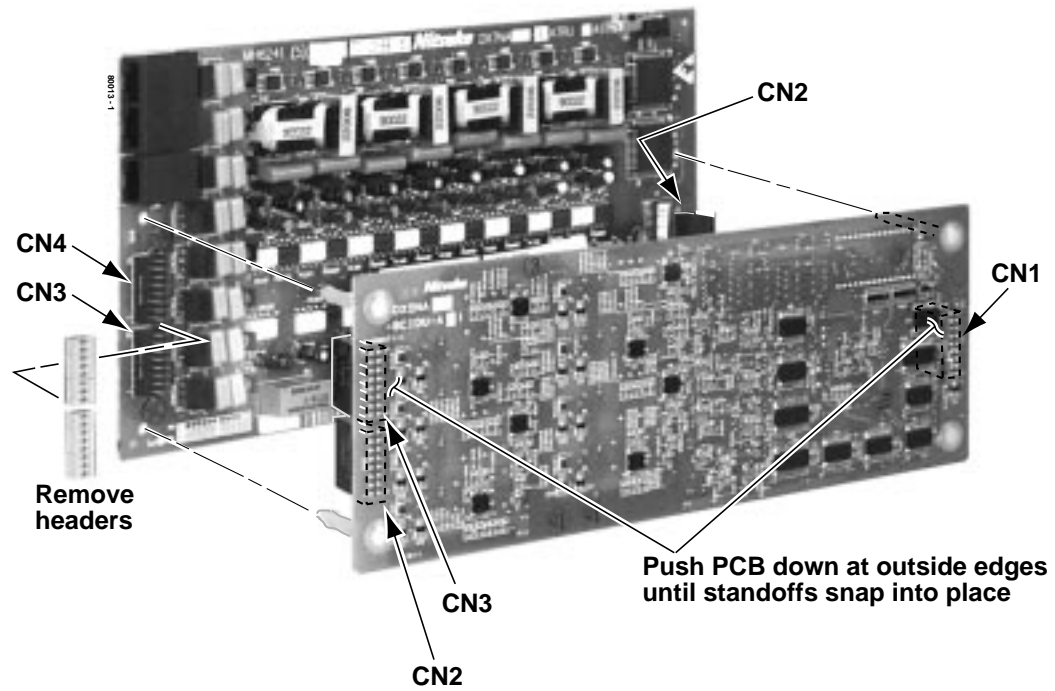

Figure 2-12 INSTALLING THE 8 CIRCUIT CALLER ID DAUGHTER BOARD
8 Circuit Caller ID Daughter Board (Figure 2-12)
3. Remove the headers from 8ATRU PCB connectors CN3 and CN4 and store in a safe place (see Figure 2-12).